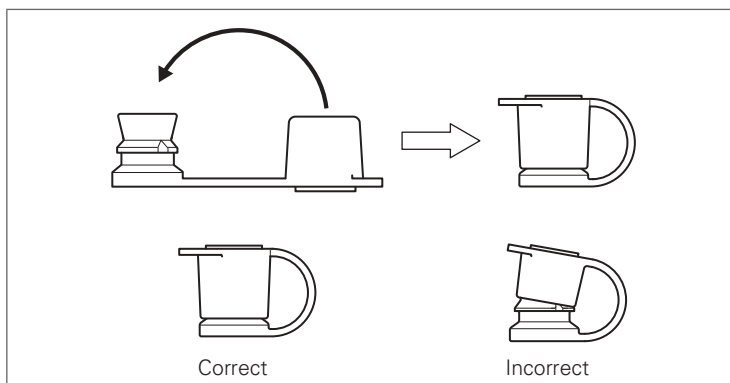

Figure 3.22
2. Close the inlet seal as depicted in Figure 3.22.